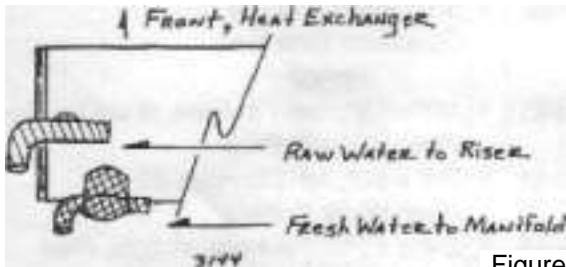

Figure 4
19. Use the 11" piece of 1" hose and (2) # 16 hose clamps to connect the brass fitting, threaded into the right hand exhaust manifold to the fresh water spud on the right end of the heat exchanger. Use the 24 1/4" piece of T" hose to connect the left side (Figure 4, 5).
20. Use the "S" hose and (2) # 16 hose clamps to connect the brass 1" straight fitting, threaded into the right hand riser, to the raw water spud on the right end of the heat exchanger. This hose length may need to be trimmed. Use the 21" piece of 1" hose to connect the left side (Figure 4, 5).